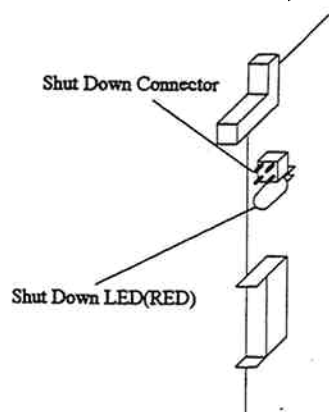

Fig. 3.7.3.3-6 Shut Down LED
- a. Remove the SCSI Interface Cables referring to Fig. 3.7.3.3-7.